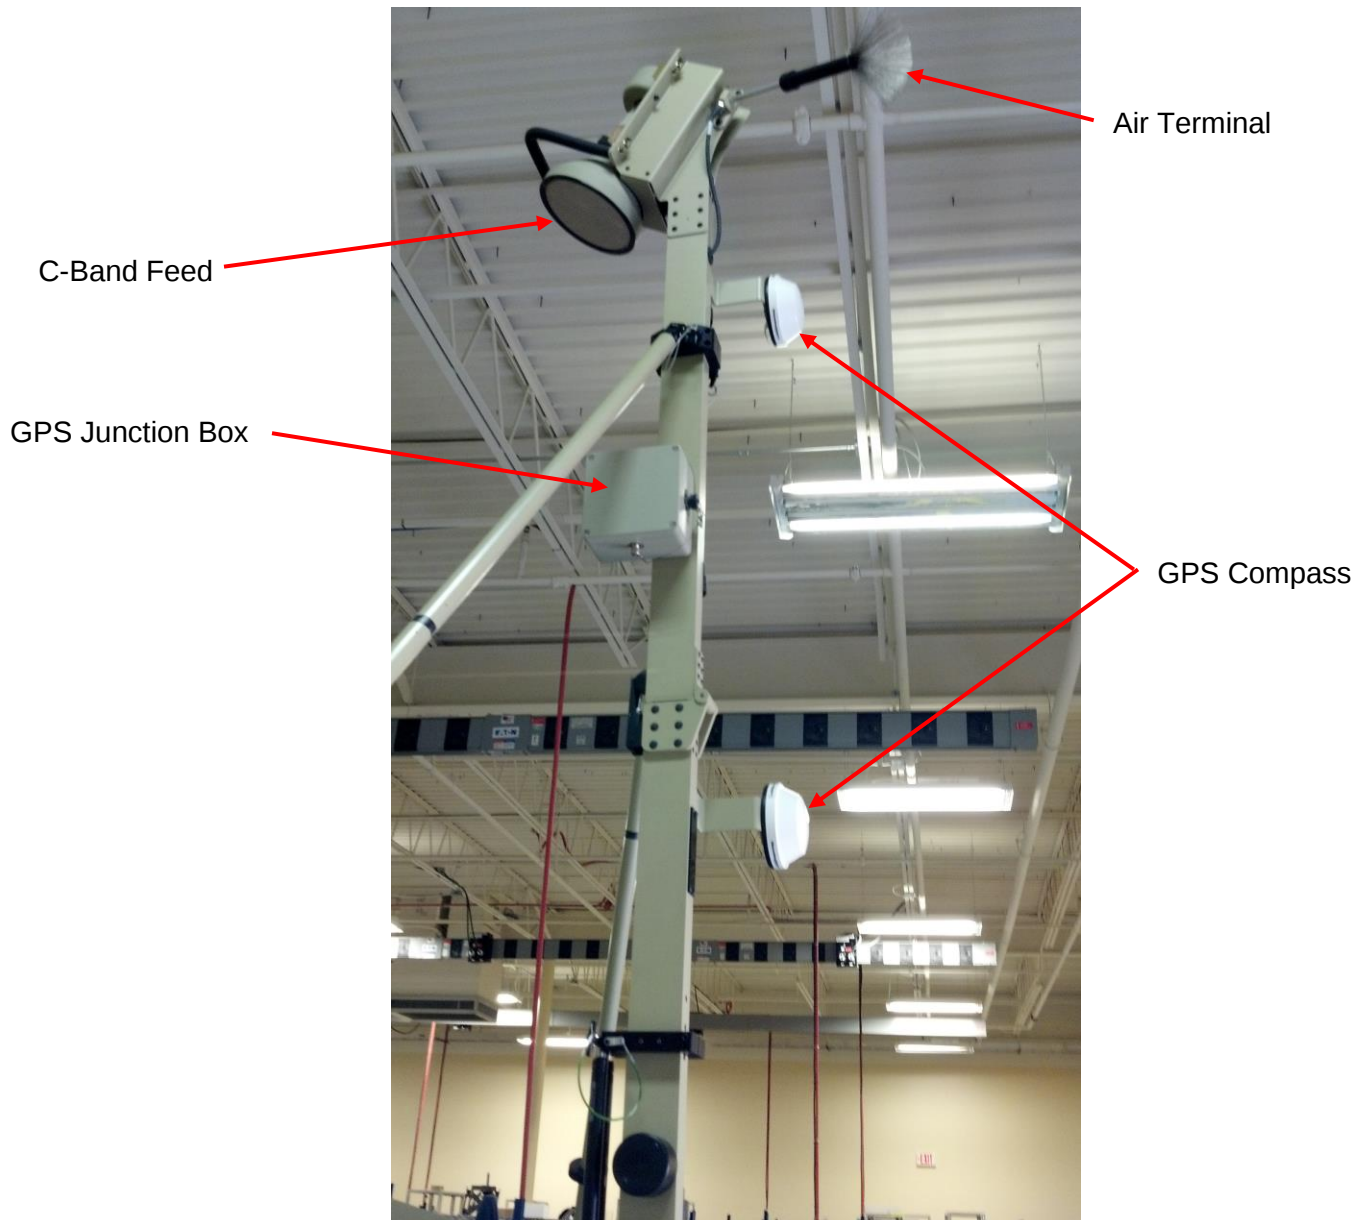

Figure 31. Connecting Feed Boom Cables
13. Connect the cables from the GPS junction box to the GPS antenna. Route the cables under the feed boom when in the lowered position. See Figure 31.